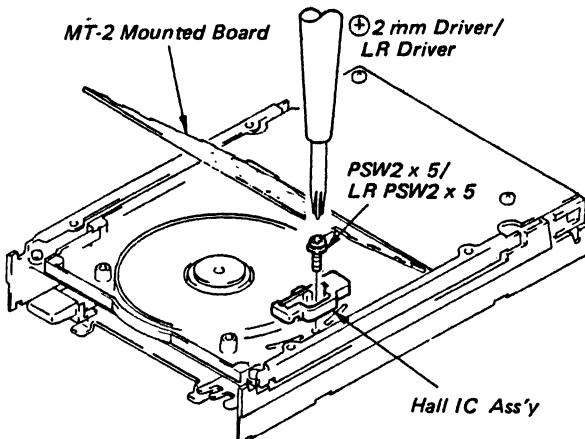

Fig. 4-5 Hall IC Ass'y Replacement
- Remove the screw (PSW2x5/LR PSW2x5) securing the Hall IC Ass'y and then remove the Hall IC Ass'y. (Refer to Fig. 4-5)